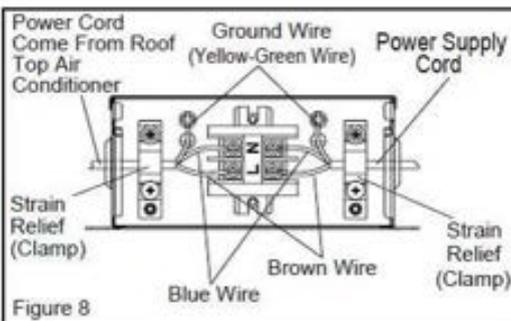

Figure 8
2. Come mostrato in fig.8, l'unità interna ha un set di cavi di segnale di controllo, con 4 terminali di cablaggio in totale.
4. Connect the power cord to the brown, blue and ground wires found in the junction box with a terminal board. CAUTION Connect brown wire to brown wire, blue wire to blue wire and the ground wire to earth. (see Figure 8).
3. Connect the docking terminals of indoor unit and outdoor unit, see Figure 8.